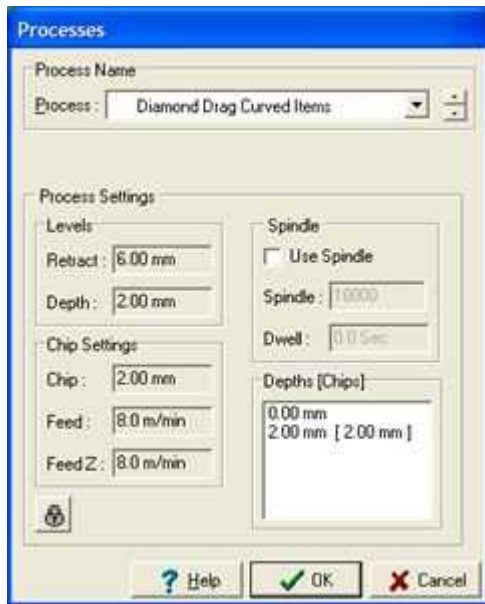

Figure 4
- 6 You are now ready to engrave your Tankard., Left Click On "Production" on the "Main Menu". The select "Engrave", you will now have the Processes Dialogue Box. on the screen, select Diamond Drag Curved Items, see Figure 4. Click On "OK" to send the job to your Universal-300 Engraving Machine. You will then get a Dialogue Box confirming that the job has been downloaded.